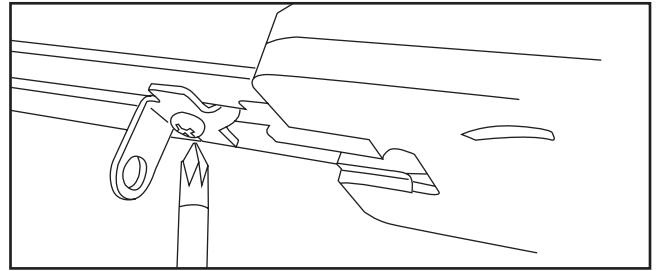

Figure 2.3.1 - Remove hardstop
3.1 - It may be necessary to add or remove carriers based on the curtain size, fullness, and pleat spacing. To add or remove carriers, remove the motor if it is installed. Then, loosen the hardstop screw and slide it out of the track. See Figure 2.3.1.